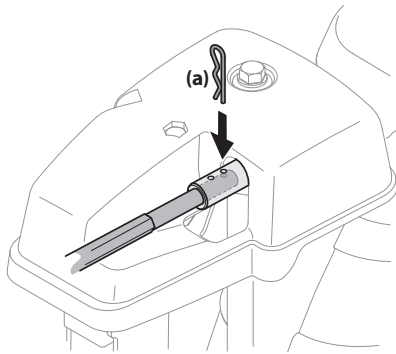

Figure 2-31
7. Push chute control rod toward control panel until hole in rod lines up with hole in chute control input closest to chute control head and insert hairpin clip (a) removed in Step 1. See Figure 2-31.